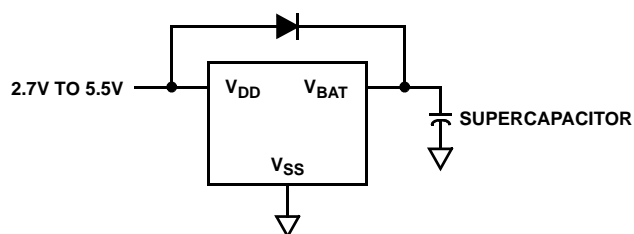

FIGURE 28. SUPERCAPACITOR CHARGING CIRCUIT
- Mode C** - In this mode, the selection bits indicate a low  $V_{DD}$  switchover combined with no communications in battery backup. Operation is actually identical to Mode A with I2C communications down to  $V_{DD} = V_{RESET}$ , then no communications (see Figure 28).